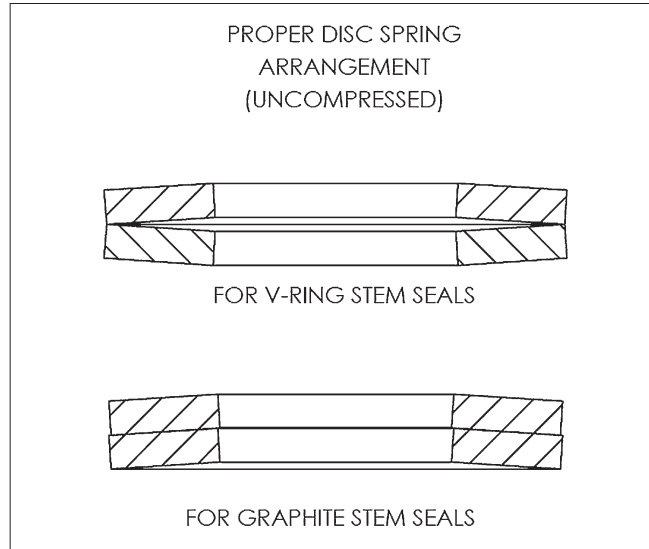

Figure 9. Disc Springs Orientation
9. Place compression plate (20) over studs (29). Place two disc springs (31) over each stud (see **Figure 9** for proper orientation).
10. A lubricant compatible with the flow media **MUST** be applied to the stud (29) threads and the face of the stud nut (30). Place a stud nut (30) on each stud (29) and tighten nuts alternately so that the compression plate (20) remains parallel with the body bonnet. Tighten the stud nuts in accordance with the torque values in **Table 1**.